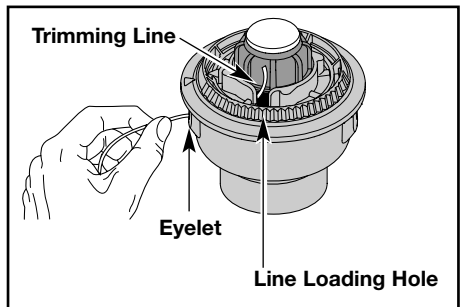

Fig. 18
NOTE: Before installing new trimming line onto the existing inner reel, remove any old line from the SpeedSpool by pulling the line out of the line loading or locking holes (See Figs. 18 and 19 for location of holes).
2. Insert **10 feet (2.5 m)** for models with **.080 in (2.03 mm)** of trimming line and **15 ft (4.5 m)** for models with **.060 in (1.52 mm)** line into one of the two eyelets and push it up through the line loading hole in the inner reel (Fig. 18). Do not bend the line when inserting it into the eyelet.